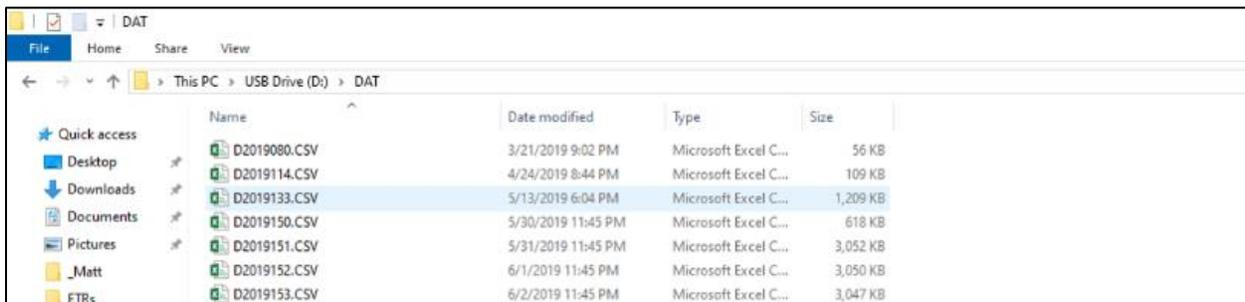

Figure 4. The DAT folder is the folder that contains the SUNA .CSV Data Files
3. The DAT folder is the folder that contains the SUNA .CSV Data Files (Figure 4). The SUNA saves the data file by the year (2019) and the day of the year (1-365). Drag and drop the DAT files onto your laptop in a new folder labeled “**AssetTag\_SITE\_YYYY-MM-DD**” (the full 14-digit asset tag), as you would with any computer operating system. **This process requires monitoring. The file transfer process can time-out and require you to restart the process. The upload process will break if the folder naming convention is not followed.**